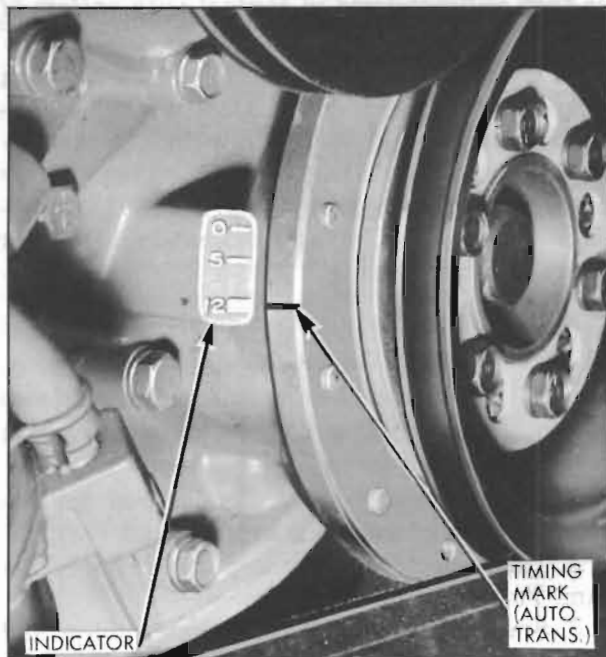

Figure 10-42—Ignition Timing Mark and Indicator
the timing chain cover, has three grooves filled with yellow paint. These grooves indicate U.D.C. (marked "0"), "5" degrees, and "12" degrees before U.D.C. See figure 10-42.
1. With right rocker arm cover removed, rotate crankshaft in a forward direction using a suitable wrench on the harmonic balancer to crankshaft bolt. Continue rotation until both valves for No. 1 cylinder are completely closed and the timing mark on balancer is aligned with the proper mark on timing indicator. See figure 10-42. No. 1 cylinder is now in position to fire.
4. Direct beam of timing light on the timing indicator and edge of harmonic balancer. Turn distributor housing slowly until yellow mark on balancer lines up with the proper mark on the indicator, then tighten clamp bolt securely. See figure 10-42.